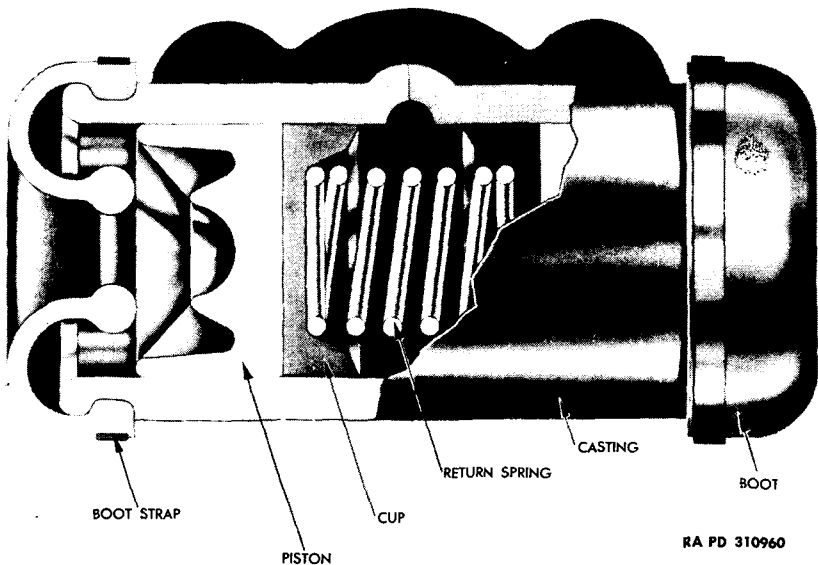

Figure 10 — Straight-bore Wheel Cylinder with Socket Type Piston
22. DESCRIPTION (figs. 10, 11, and 12).